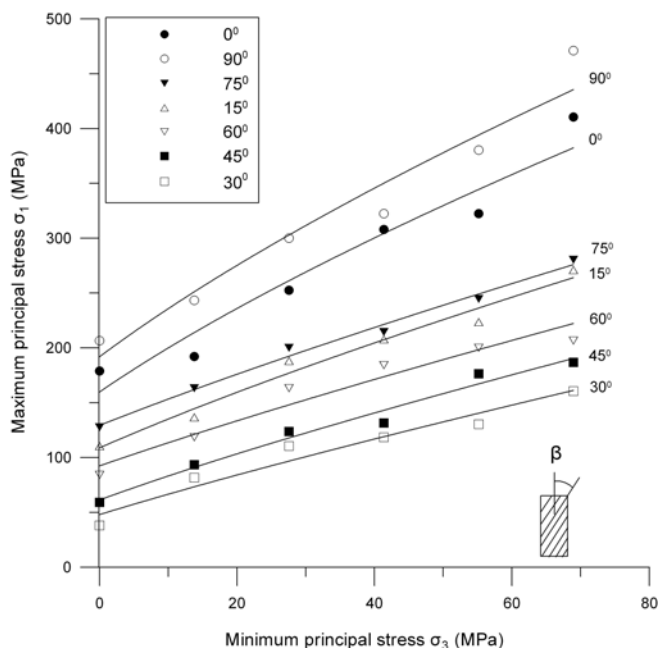

Figure 8. Failure envelopes of Penhryn slate (triaxial testing data from Attewell and Sandford [6]).
The failure envelopes of Penhryn slate for different loading orientations, β , resulting from fitting the proposed equation (5) to the triaxial data, are given in Figure 8. The variation of the parameter k_β is summarized in Table 2. It can be concluded that the minimum value of this parameter is encountered, as expected, when loading takes place at an orientation of $\beta=30^\circ$ relative to the planes of foliation ($k_{30}=0.25$), while its maximum value ($k_{90}=1$) when loading is performed normal to them.
A dimensionless plot, which was introduced by Londe [28], is utilized in order to check the quality of the fitting procedure. As it is shown in Figures 8, 9, 10, 11 and 12, the triaxial data of anisotropic rocks have considerable scatter in a σ_3 - σ_1 plot, which in turn represents the degree of their strength anisotropy.